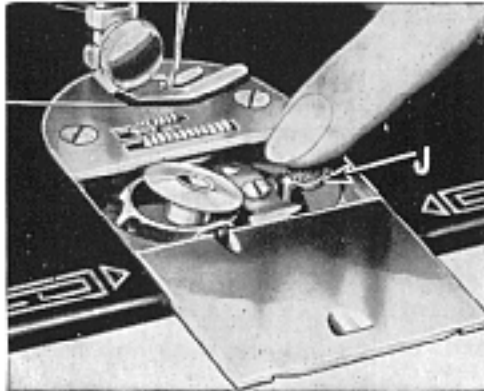

Fig. 15
**Raise needle to its highest point.** Draw slide plate to the left. Press bobbin ejector **J**, Fig. 15, to raise bobbin for easy removal.